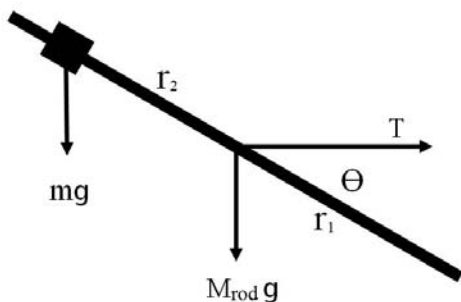

Figure 2: Free-body diagram for rod
- Measure the distance r_1 , from the pivot hole (near the end) of the rod out to the center hole. See Figure 2. This is the radius you will use to calculate the torque caused by the string, but also the torque caused by the weight of the rod, acting at its center of mass.
4. Calculate the angle, θ , shown in Figure 2. Note that this angle is not simply the angle measured by the sensor.